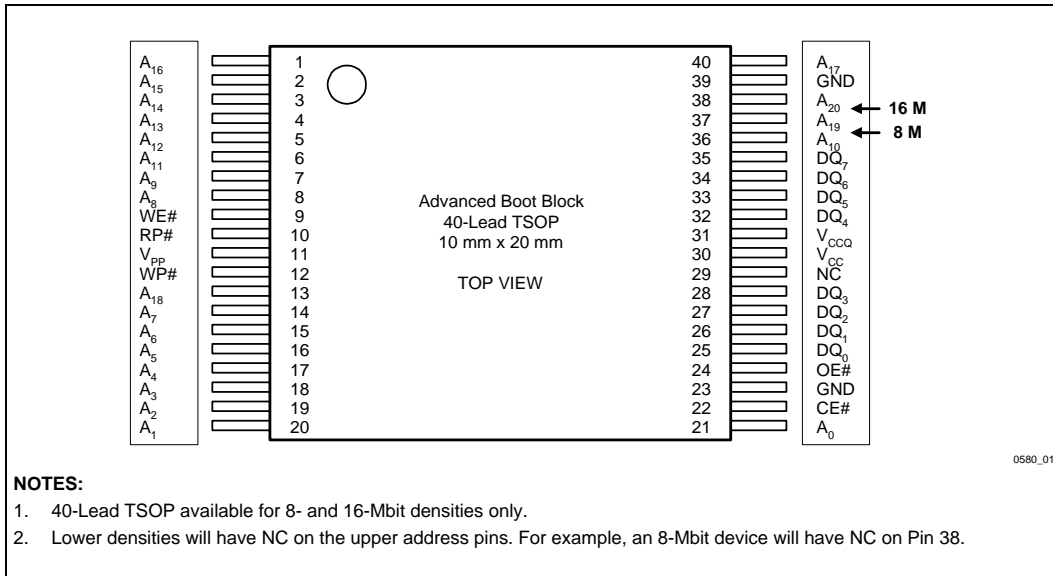
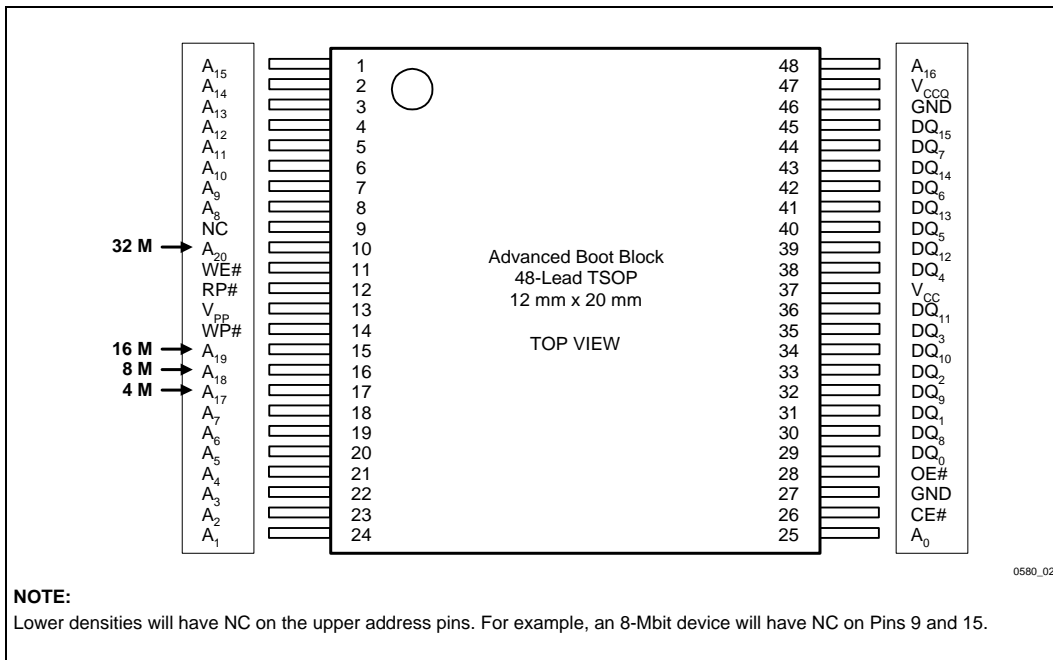

Figure 1. 40-Lead TSOP Package for x8 Configurations
Figure 2. 48-Lead TSOP Package for x16 Configurations
- $V_{CCQ}$  input of 1.65 V–2.5 V on all I/Os. See Figures 1 through 4 for pinout diagrams and  $V_{CCQ}$  location
The Smart 3 Advanced Boot Block flash memory is available in 40-lead TSOP (x8, Figure 1), 48-lead TSOP (x16, Figure 2) and 48-ball  $\mu$ BGA packages (x8 and x16, Figure 3 and Figure 4 respectively). In all figures, pin changes necessary for density upgrades have been circled.